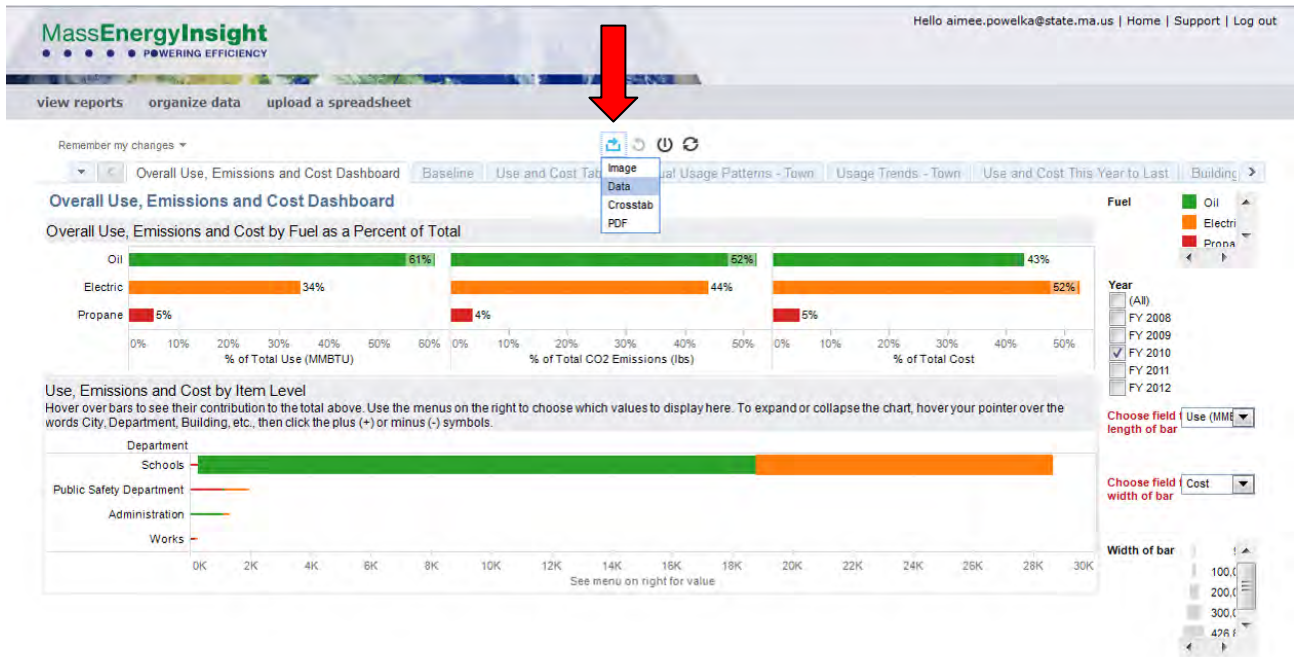

Figure 16A: Step 1 in exporting the underlying data
- First, navigate to the graph for which you would like to view the data and select all the relevant years. The "Overall, Use, Emissions, and Cost Dashboard" is shown as an example in *Figure 16A*.
- Hover over the leftmost icon (Export menu) in the toolbar at the top center of the page, then click on "Data" in the dropdown menu (*Arrow in Figure 16A*). A new window will immediately open containing a select portion of the data for view, split into two tabs: *Summary* and *Underlying*. The *Summary* data exported from *Figure 16A* is shown below in *Figure 16B* for illustration.